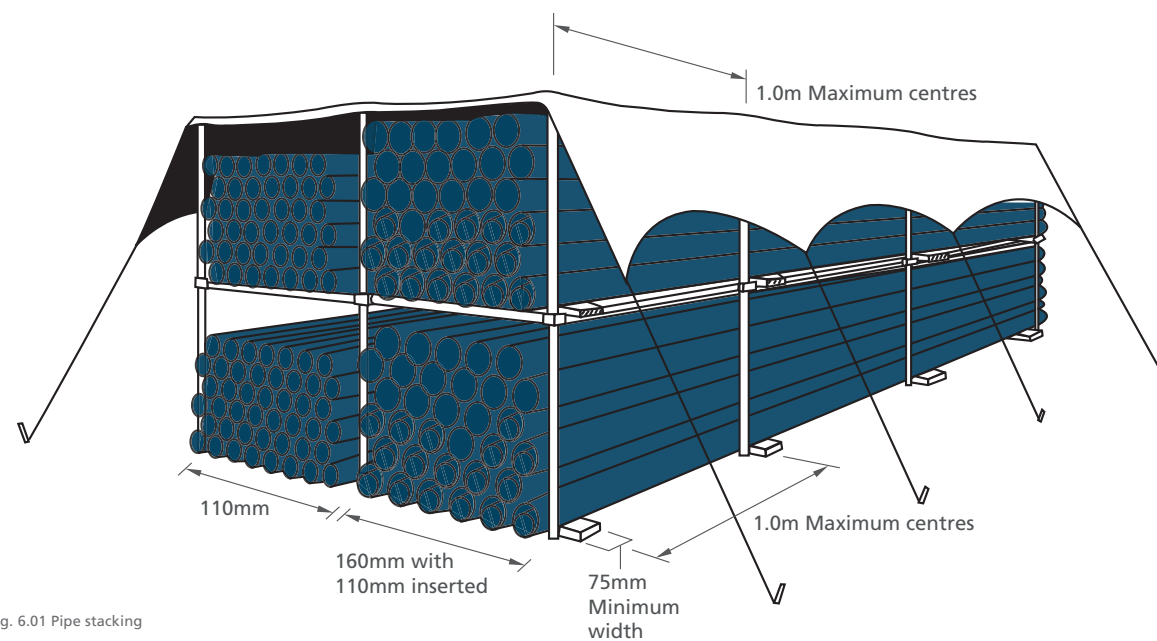

Fig. 6.01 Pipe stacking
- or on 75mm x 75mm timber at 1m centers (fig 6.01)
- Provide side support with 75mm wide battens at 1m centres (Fig. 6.01)